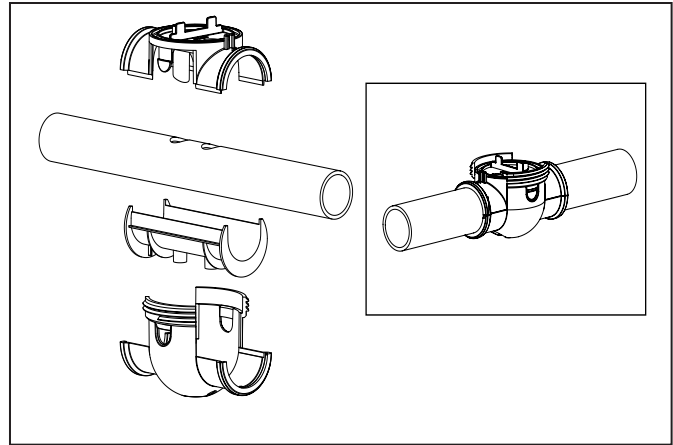
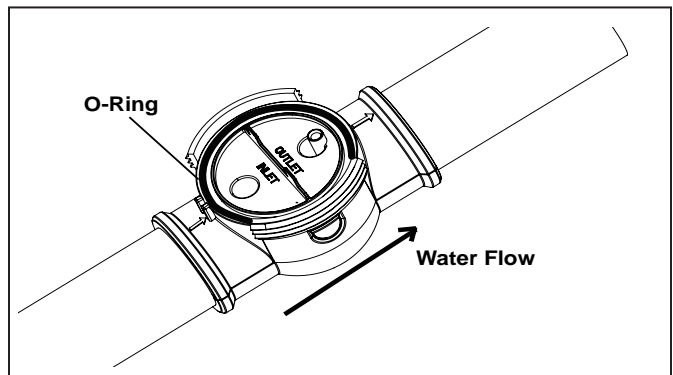

Figure 9. Attaching Cell Clamps
Figure 10. Water Flow Arrows
11. Secure the clamps, pipe spacer, and gasket around the pipe as shown (see Figure 9) **making sure the flow arrows on the clamp point in the direction of the water flow** (see Figure 10). Make sure the two (2) clips on the sides of the clamp are snapped into place.
12. Insert the o-ring into the channel on the clamp and then attach the cell (see Figure 10 and 11).